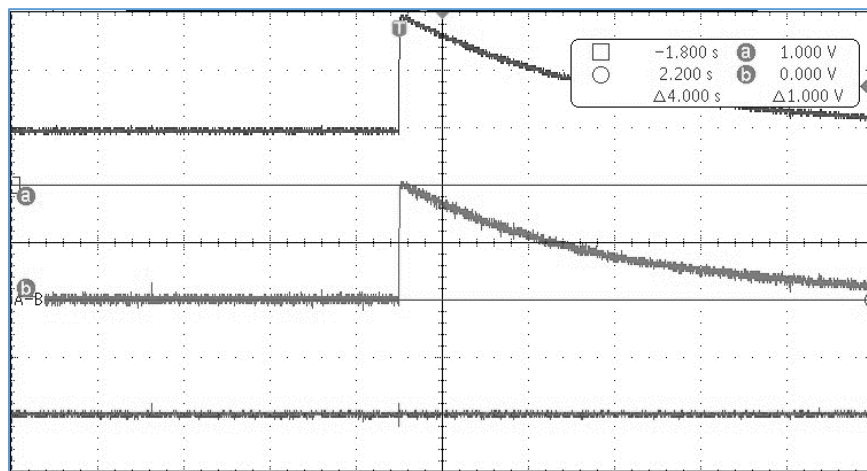

Figure 9 Y1-Y2 Waveform using the built in Pass/Fail Reference of the D8-PF
12. The oscilloscope should display a waveform like Figure 9, with a peak value of approximately 1 volt.